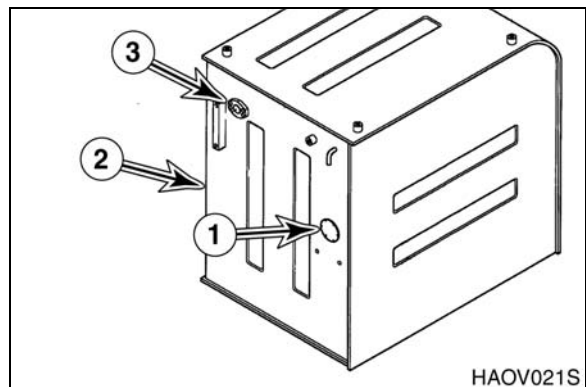

Figure 8
17. Tag and disconnect wires leading to fuel sensor (1, Figure 8) on side of fuel tank (2).
18. If equipped, remove components from the fuel fill pump port (3, Figure 8) on side of fuel tank (2).